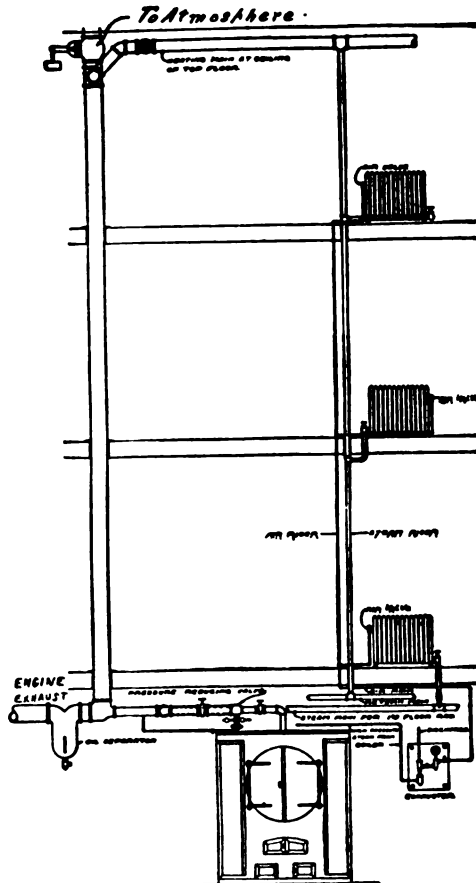

Fig. 99.—Paul System—Down Feed Exhaust.
A. The exhausting device is first started and all air is removed from the piping and radiators and the system is placed under a vacuum. Steam is then turned on and flows through the system quickly, uninterrupted by atmospheric pressure. Fig. 99 shows